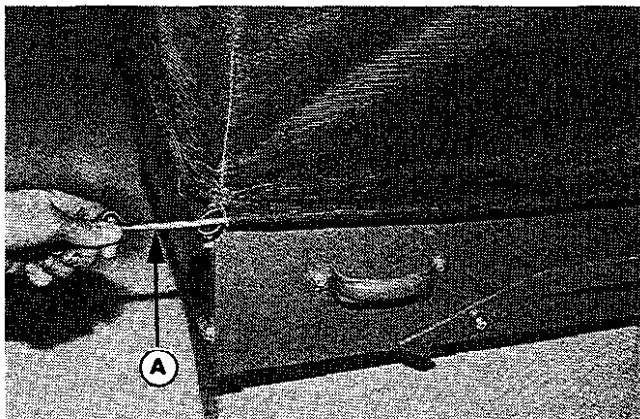

Figure 12
- Thread the straight rod (A, figure 12) which has an eyelet on each end through the sleeve at the front of the cover.